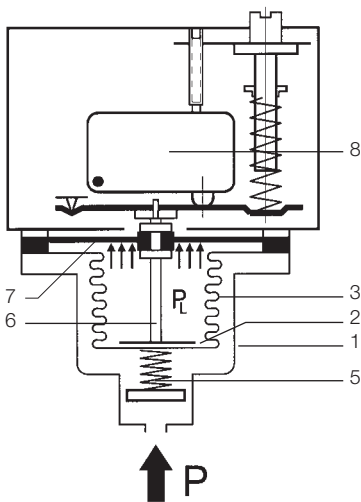

Fig. 1
- By a self-monitoring pressure sensor which is designed so that a breakage in the mechanical part of the measuring element leads to cut-off to the safe side (see Fig. 1)
Fig. 1 is a cross-sectional diagram of a pressure sensor which fulfils the "special construction" requirements. The measuring chamber is bordered by the housing (1), base (2) and measuring bellows (3). All parts are made of stainless steel and are welded together without filler metals. When the pressure rises the measuring bellows (3) moves upwards, supported by the back pressure spring (5). The setpoint spring installed in the switching device acts as a counterforce. A transfer bolt (6) which transfers the pressure-dependent movements of the measuring bellows (3) to the switching device located above is placed on the inside of the base. A plastic diaphragm (7), which is not in contact with the medium and in normal operation follows the movements of the measuring bellows but itself has no influence on the position of the bellows, is clamped in the upper part of the transfer bolt. On breakage of the measuring bellows (3), the medium can escape into the interior of the bellows. The medium pressure is now on the underside of the diaphragm (PL). An additional force is generated because of the far larger effective area of the diaphragm compared with the bellows, and this pushes the transfer bolt (6) upwards. This results in cut-off to the safe side. The cut-off condition thus achieved is normally interlocked electrically or mechanically, so that the system also remains cut off when the pressure drops again. The plastic diaphragm (7) is not a pressure-bearing part; it has no function in normal operation and is effective only if a leakage occurs to the measuring bellows. Safety diaphragms of the described design are permissible up to 32 bar. This should be sufficient for most applications.